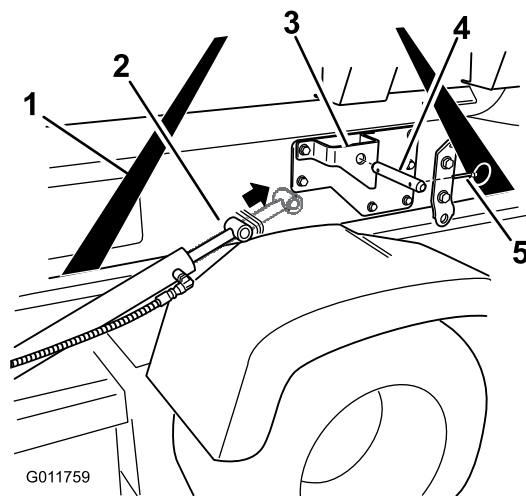

Figure 20
4. Extend the lift cylinders to the brackets on the tank skid. Align the cylinder arms with the holes in the tank skid brackets (Figure 20).